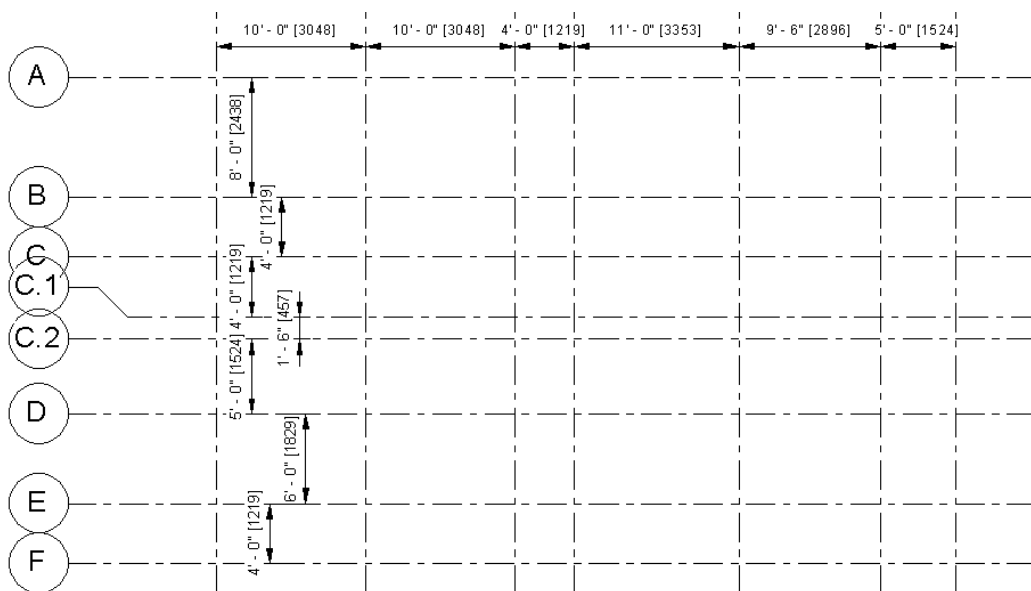
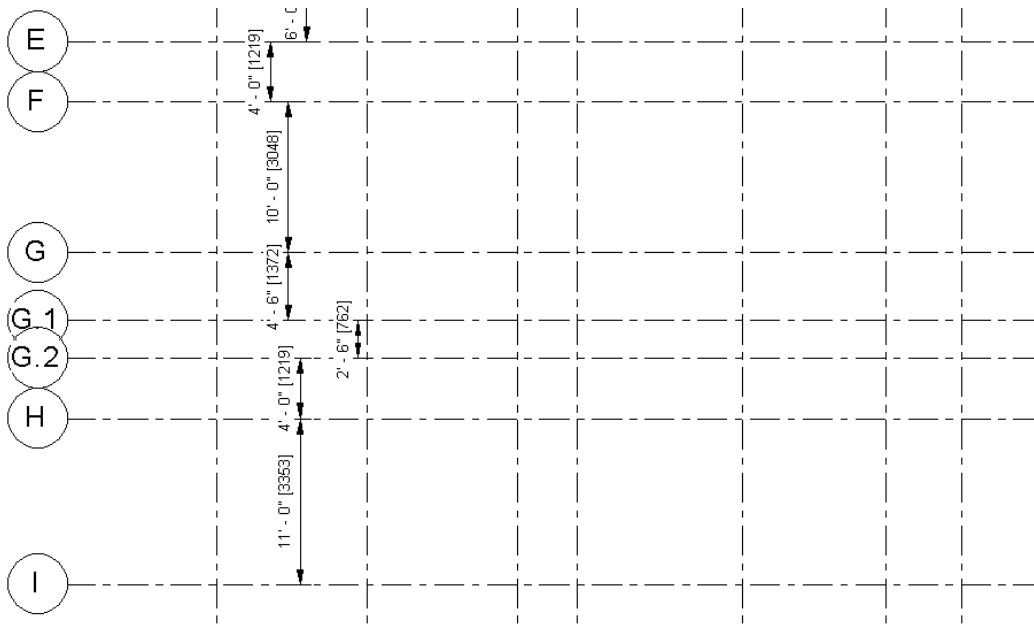

Figure 3-53 The horizontal grid lines to be created with the specified names and distances
Figure 3-54 The remaining horizontal grid lines in continuation of Figure 3-53
24. Repeat steps 20 to 23 to create the rest of horizontal grid lines and to rename them, refer to Figures 3-53 and 3-54.
To create the remaining horizontal grids from grid **B** to grid **I** refer to Figures 3-53 and 3-54. Note that both these figures are part of a single grid plan view. Figure 3-54 is in continuation with Figure 3-53 and is displayed separately to show the grid dimensions clearly. Further, the horizontal grids will be renamed using the same method used for vertical grids.